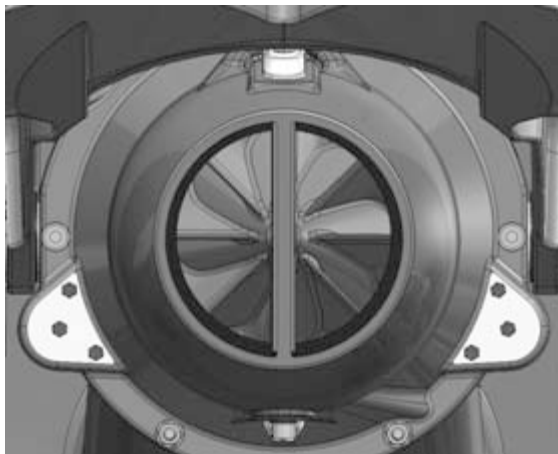

Figure 39. Checking the stator for blockages
3. Check the stator or nozzle unit (Figure 39).